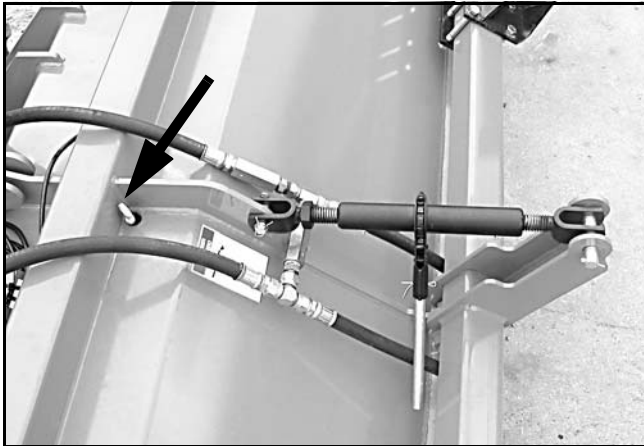

Figure 32. Dipstick Location
9. Add SAE 85W90 gear oil through the dipstick cover. Use the dipstick to check the oil level (Figure 32) and add oil accordingly.
2. Turn the turnbuckle to achieve the desired ratchet length (see Figure 32). Repeat Step 2 with other ratchets.